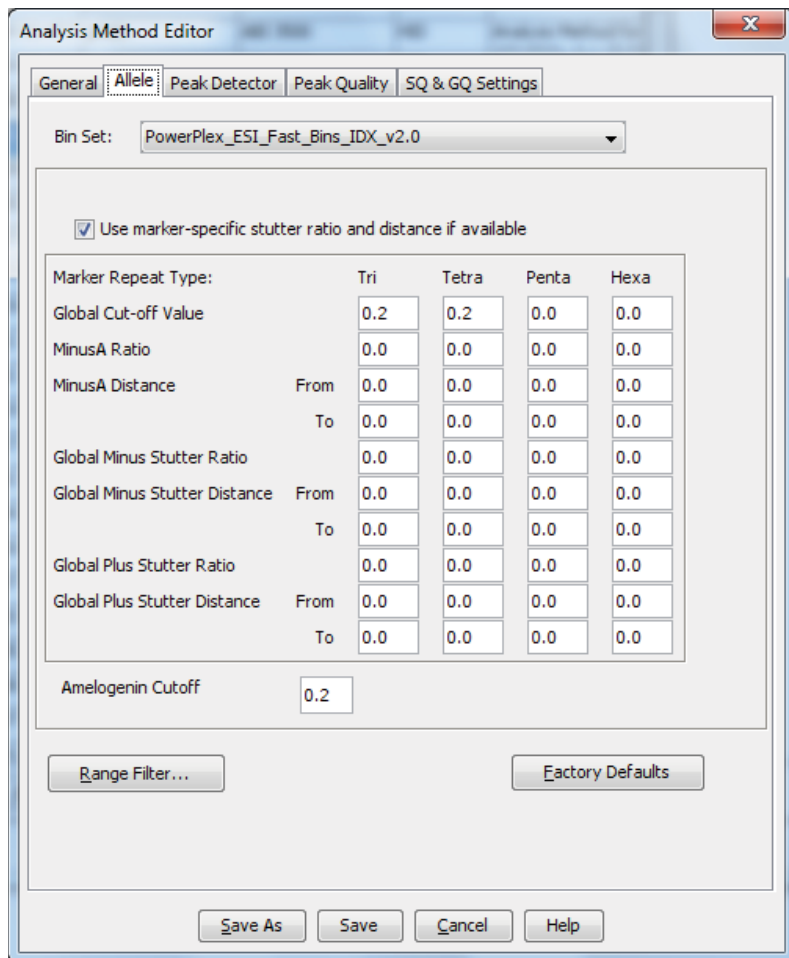

Figure 15. The GeneMapper® ID-X 'Allele' tab with settings for using a 20% peak filter.
8. Ensure that the 'Use marker-specific stutter ratio and distance if available' box is checked. We recommend the values shown in Figure 15 for proper filtering of stutter peaks when using the PowerPlex® ESI 17 Fast System. You may need to optimize these settings. In-house validation should be performed.
6. Select the 'Allele' tab (Figure 15).
- We recommend the values shown in Figure 18 for proper filtering of stutter peaks when using the PowerPlex® ESI 17 Fast System. Ensure that the 'Use marker-specific stutter ratio and distance if available' box is checked. Doing this will assign locus-specific stutter filters and distances from the imported stutter file. Ensure that the appropriate global filter is applied to the analysis method. For example, for a 20% filter enter "0.20" for the Amelogenin Cutoff and Global Cutoff Value for Tri and Tetra repeats (Figure 15). In-house validation should be performed.
- d. The peak window size shown in Figure 15 is not the default setting. It has been changed to 11 from the default value of 15. This ensures that the software can resolve alleles in the ladder that are 1 base apart for the larger loci such as D1S1656, D12S391 and D2S441.